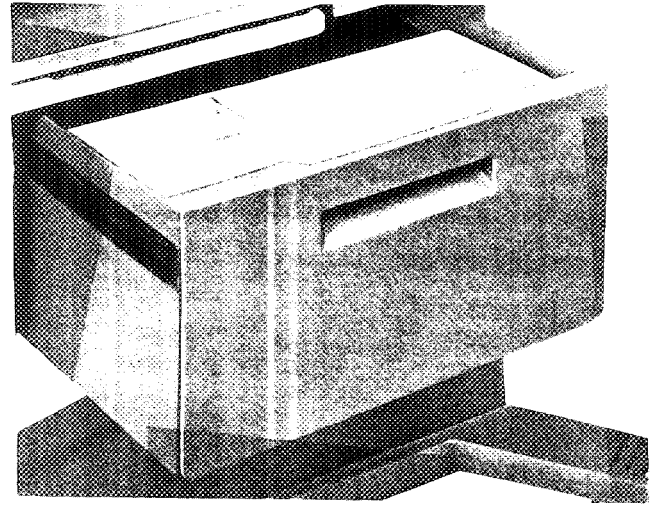

FIGURE 4.8 CHECKING THE PASS-THROUGH DRAWER
4. CHECK THE PASS-THROUGH DRAWER (Figure 4.8) by sliding the drawer in and out on both sides of the Bassinet. Return to center position.